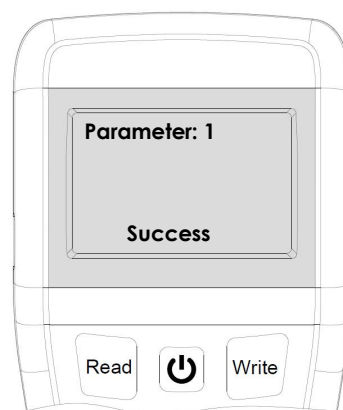

Figure 17
2. Input the **"1"** then press **"Write"** to change the setting (Figure 17) and LED will turn-off. To resume the default setting, press **"Clear"** and then press **"Write"**.